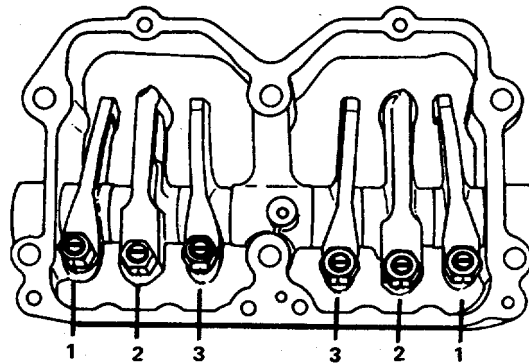

FIGURE 2-38. *Identifying Rocker Levels.*
(1) General adjustment information:
- (f) Each cylinder has three rocker levers. The rocker lever nearest the center of the housing is the intake lever (3, FIGURE 2-38). The exhaust lever is reference (1) and the injector lever is (2).